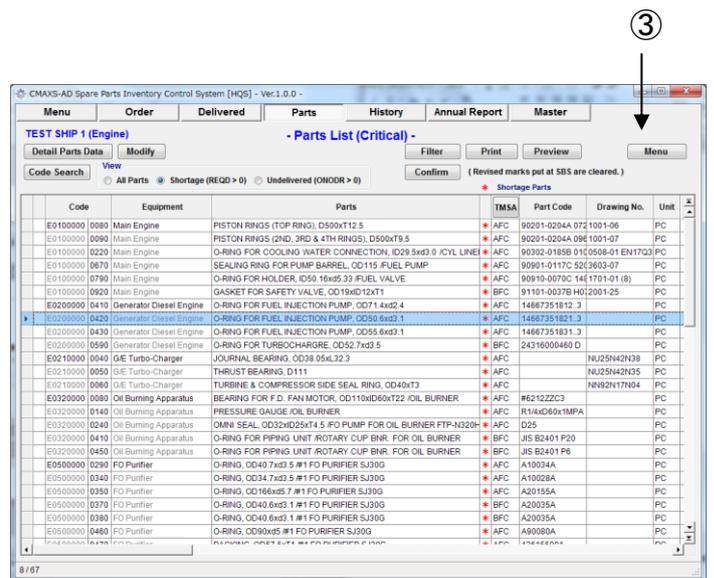

Fig.5-2 Critical Spare Parts list with shortage condition Screen
- (2) "Critical Spare Parts list with shortage condition Screen"(Fig.5-2) is displayed.
- (3) Select [Menu] to return to "Menu Screen".